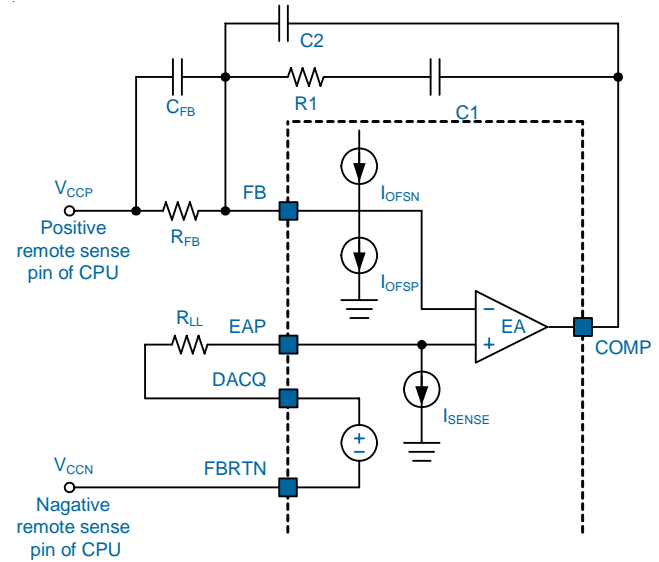
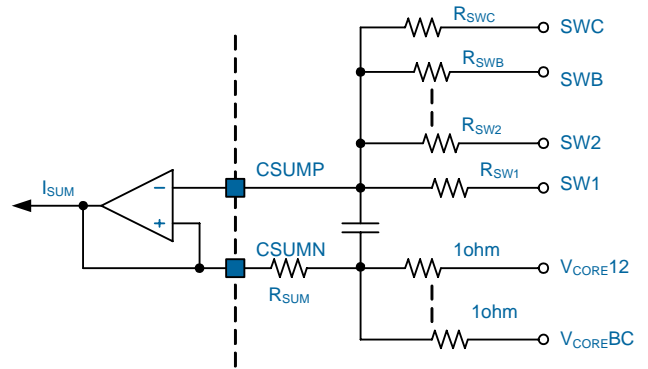

Figure 6. Circuit for V_{OUT} Differential Sensing and No Load Offset
Figure 8. Total Load Current Sensing.
The uP6208 uses differential sensing by a high gain low offset error amplifier as shown in Figure 6. The CPU voltage is sensed between the FB and FBRTN pins. A resistor R_{FB}
In Figure 6, I_{OFSN} and I_{OFSP} are used to generate no-load offset. Either I_{OFSN} or I_{OFSP} is active during normal operation. Connect a resistor R_{OFS} between OFS pin and GND to generate negative no-load offset voltage V_{OFSN} .
The uP6208 provides low input offset current sense amplifier (CSA) to monitor the total load current flowing through inductor as shown in Figure 8. Output current of CSA (I_{SUM}) is used for active voltage positioning (AVP), load current monitoring and over current protection. In this inductor current sensing topology, R_{SW} and C_{SUM} must be selected according to the equation below:
I_{SENSE} in Figure 6 is a mirror of I_{SUM} in Figure 8. I_{SENSE} flows through R_{LL} and makes V_{EAP} equal to $V_{DACQ} - I_{SENSE} \times R_{LL}$. In steady state, output voltage is equal to V_{EAP} . Thus, the output voltage decreasing linearly with I_{OUT} is obtained. The loadline is defined as
A high gain and low input offset error amplifier (EA) is used for the control loop. The positive input of EA is set via the VID logic according to the voltages listed in V_{DAC} table of INTEL VR11/VR10 or AMD K8. This voltage is then shifted by a voltage proportional to total load current for active voltage positioning. The output of the EA is the COMP pin. V_{COMP} is shifted by a voltage proportional to channel current. Then the voltage is compared with internal ramp to generate PWM signal. The negative input (FB) is tied to the positive remote sense pin of CPU through a resistor R_{FB} for sensing and controlling the output voltage. The main loop compensation is incorporated into the feedback network between FB and COMP. A type-3 compensation network like Figure 6 is recommended. The values of R, C in type-3 compensation need complex calculation and fine tune. We simplify the problem by providing a design tool to our customers. Our design tool contains a spreadsheet which can generate the R, C values according to customer's requirement. The design tool does not provide the optimal R, C values but provides a proper starting R, C values for fine tune.